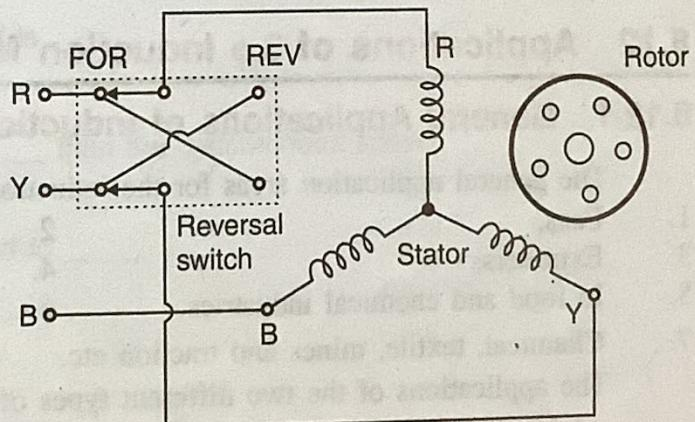

Fig. 8.10.1 : Direction reversal of an induction motor
- Fig. 8.10.1 shows the arrangement for reversing the direction of the induction motor.